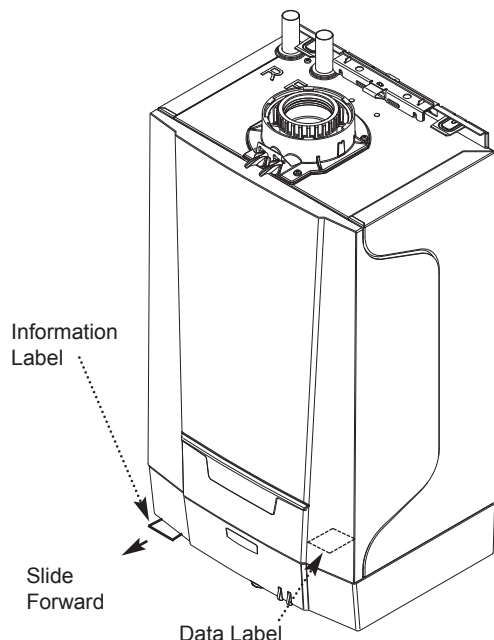

Fig. 1
6. An information label giving details of the model, serial number and Gas Council number is situated on the front left underside of the outercase and is accessed by pulling forward gently (Fig. 1).
7. The boiler data label is positioned on the inside lower right-hand side of the boiler and can be seen when the outercase panel is removed (Fig. 1).